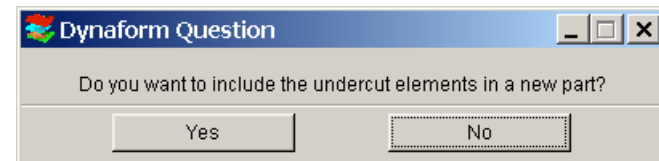

Figure 6.7
- h) Click **No** (Figure 6.7)